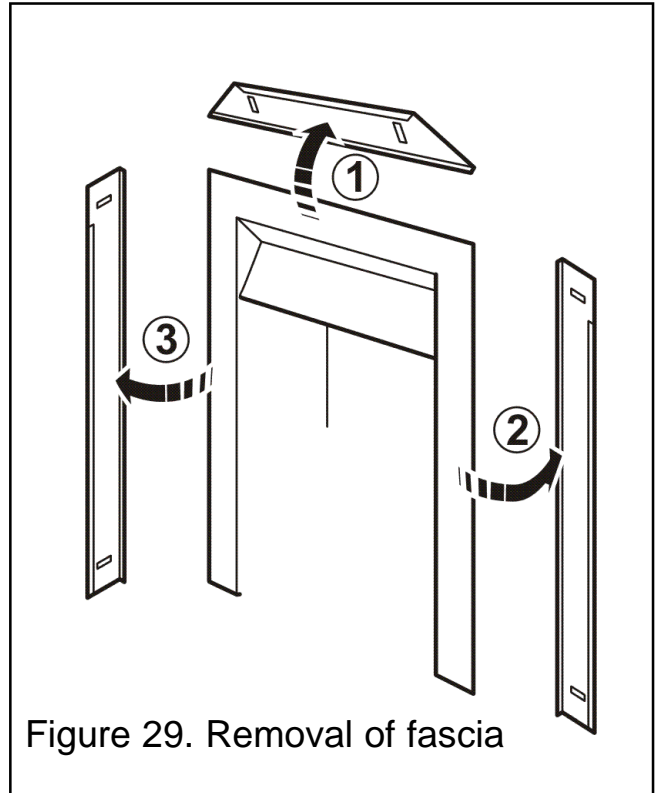

Figure 29. Removal of fascia
2. The fascia is made up of three trims. These trims are held in place by magnets. Remove the top trim by pulling forward. Place carefully aside (See figure 29).
3. Remove the side trims by pulling forward. Place carefully aside (See figure 29).